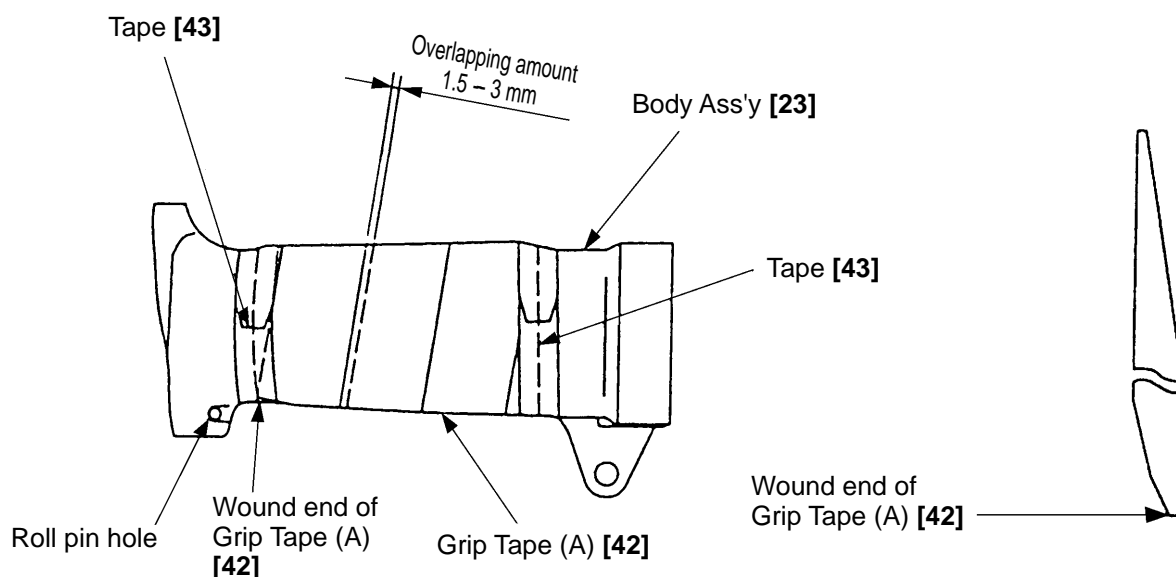

Fig. 10
(2) Winding Grip Tape (A) [42] and the Tape [43]
Grip Tape (A) [42] and the Tape [43] are self-adhesive. Peel the back sheets off Grip Tape (A) [42] and the Tape [43] before adhering them to the Body Ass'y [23]. First, adhere the end of Grip Tape (A) [42] near the roll pin hole of the Body Ass'y [23] and start to wind it around the Body Ass'y [23]. When winding is completed, fix both wound ends of Grip Tape (A) [42] by winding the Tape [43] (Fig. 10). Be careful that Grip Tape (A) [42] and the Tape [43] cannot be peeled off once they are adhered.